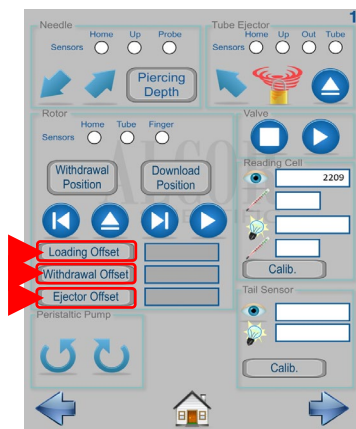

Figure 39
- 10.3. Update the settings for Loading Offset, withdraw offset and Ejector offset with the data gathered on step 1. Figure 39